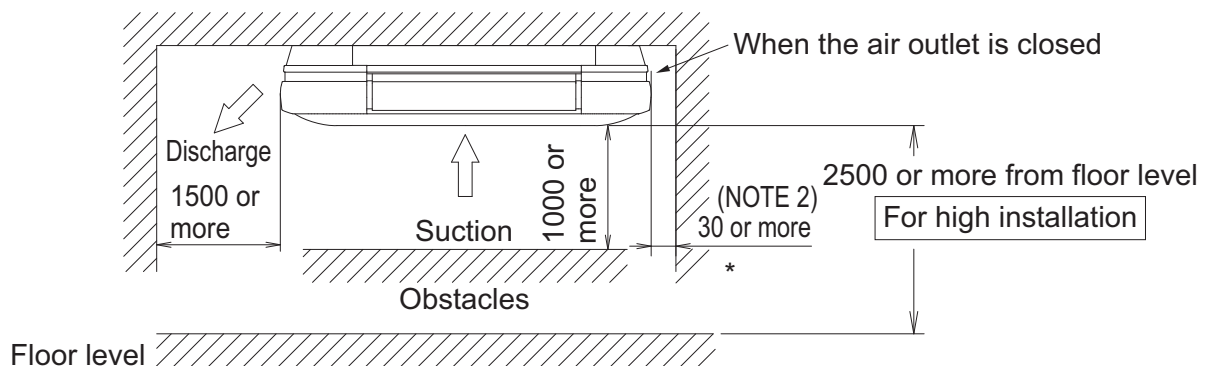
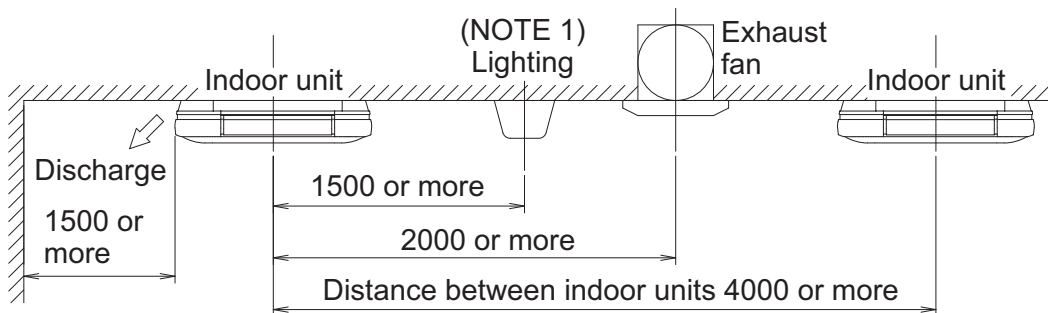

Fig. 1
Fig. 2
(1) Select the installation location that meets the following conditions and get approval of the customer.
- Where a space sufficient for installation and service can be ensured. (Refer to Fig. 1 and Fig. 2)
To determine the minimum floor area (only for R32 refrigerant). Use the graph or table to determine the minimum floor area. See figure 1 on the inside of the front cover.